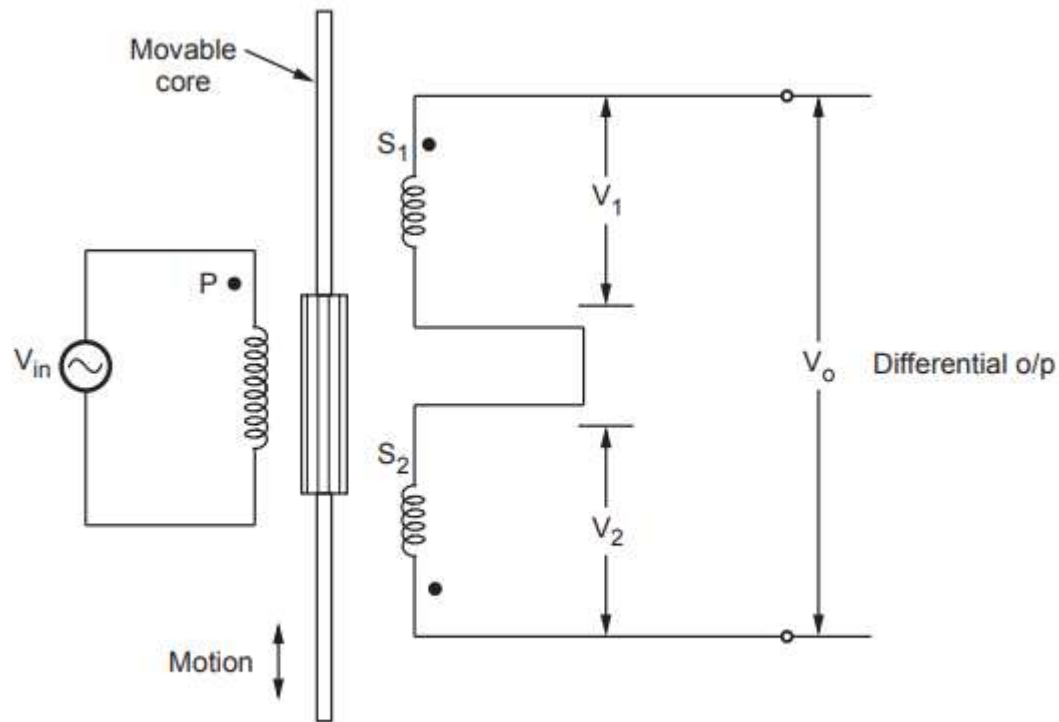

Fig. 1.10.2 Electrical connection of LVDT
- The secondaries S_1 and S_2 are connected in series opposition so that voltages induced in each coil opposes each other. The electrical equivalent connection shown in the Fig. 1.10.2.